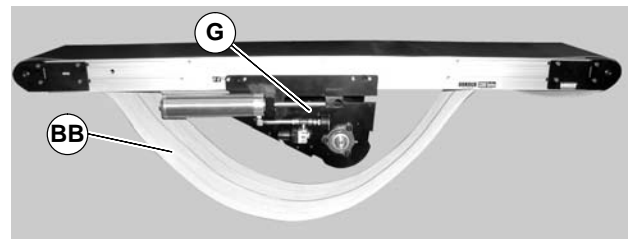

Figure 28
- Remove belt (BB of Figure 28) from center drive module (B) and conveyor.